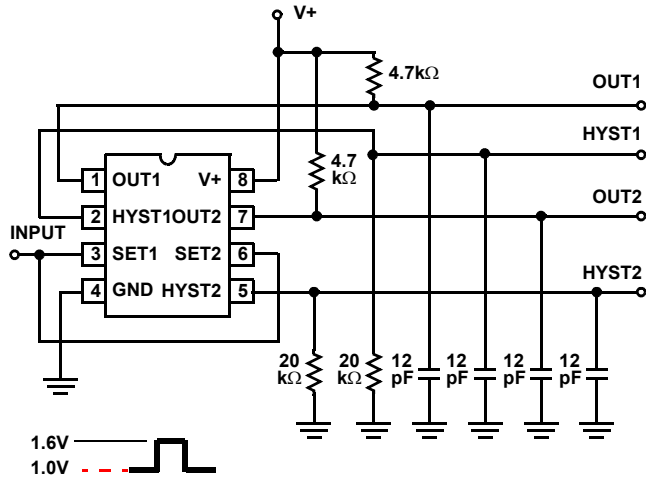

FIGURE 7. TEST CIRCUITS
The specifications below are applicable to both the ICL7665S and ICL7665SA. V+ = 5V, TA = +25°C, Test Circuit Figure 7. Unless Otherwise Specified
**Electrical Specifications** The specifications below are applicable to both the ICL7665S and ICL7665SA.  $V_+ = 5V$ ,  $T_A = +25^\circ\text{C}$ , Test Circuit Figure 7. Unless Otherwise Specified **(Continued)**